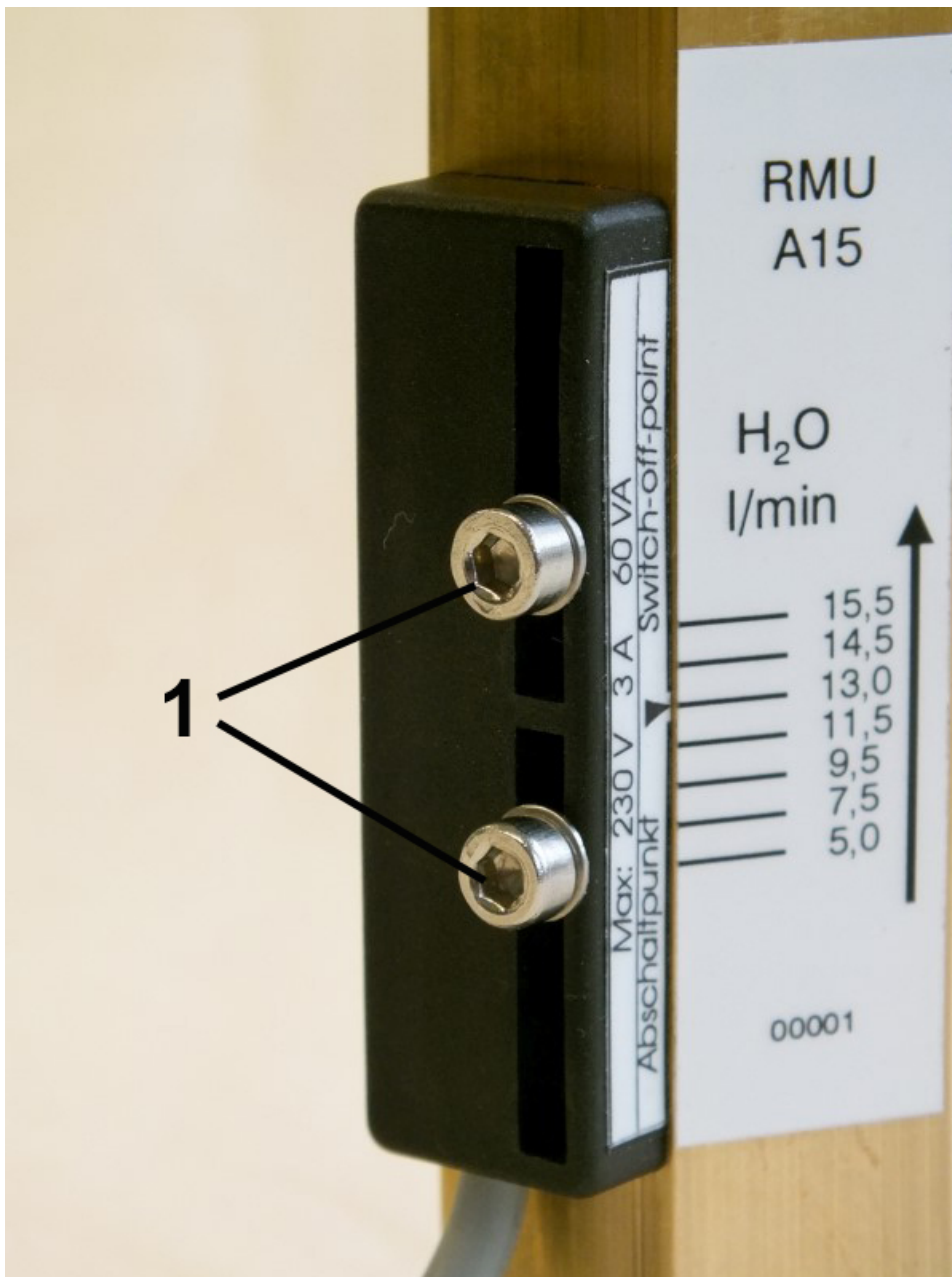

Fig. 20: Loosen the set screws (example switch point adjustment scale)
1. ➤ Loosen the set screws of the switch contact (Fig. 20/1) using a hex screwdriver.
3. ➤ Tighten the set screws of the switch contact (Fig. 20/1) using a hex screwdriver. When doing so, observe the correct tightening torque.